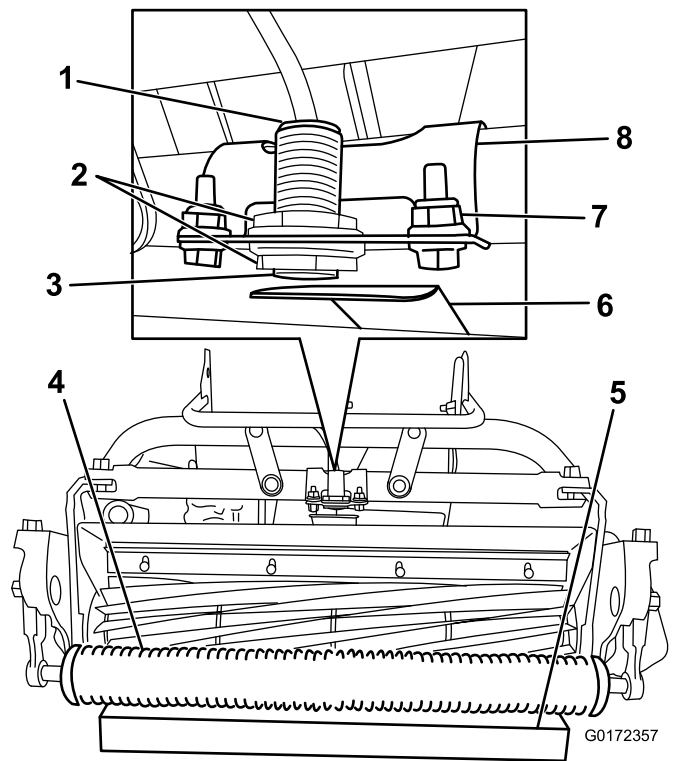

Figure 16
2. Loosen the jam nuts on the sensor and adjust the sensor so that 1 thread is visible past the lower jam nut (Figure 16).
4. Place a 3.8 cm (1-1/2 inches) block under the front cutting unit roller (Figure 16).
5. Loosen the fasteners securing the sensor bracket to the frame (Figure 16).
8. Rotate the sensor bracket toward the target plate until the light on top of the sensor illuminates (Figure 16). If it was already illuminated, rotate it away from the target plate until it goes out and then reverse direction just until it illuminates again.